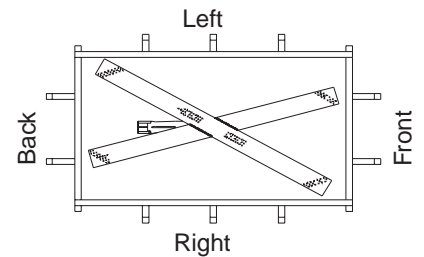

Figure 44 - Burner and Grate (Top View)
7. Figure 44 shows the top view of the burner and grate.